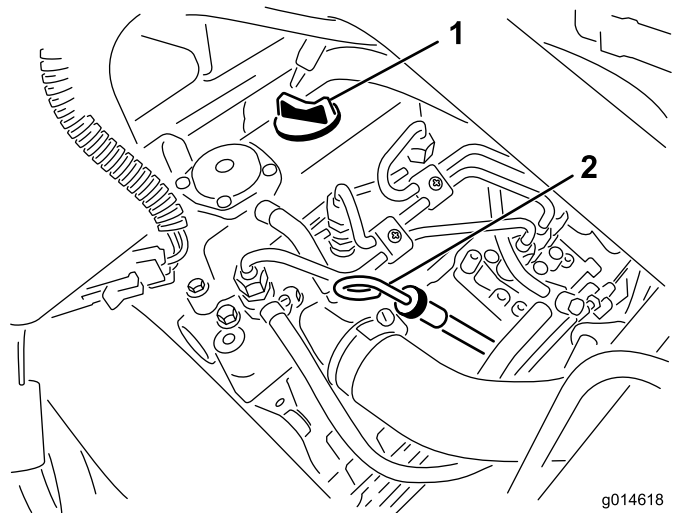

Figure 30
2. Remove the dipstick and wipe it with a clean rag (Figure 30).